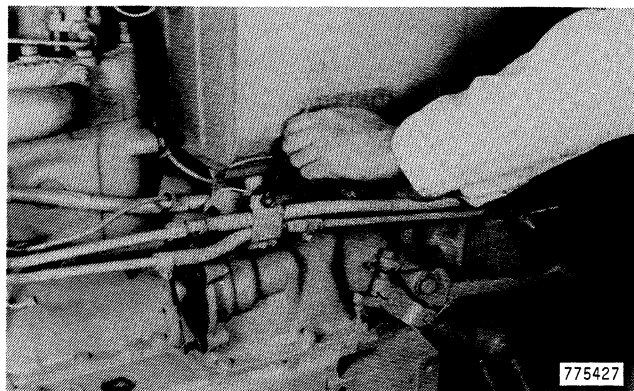

Figure 173
86. Tighten the bolt on the clamp that holds the steering tubes, Figure 173.